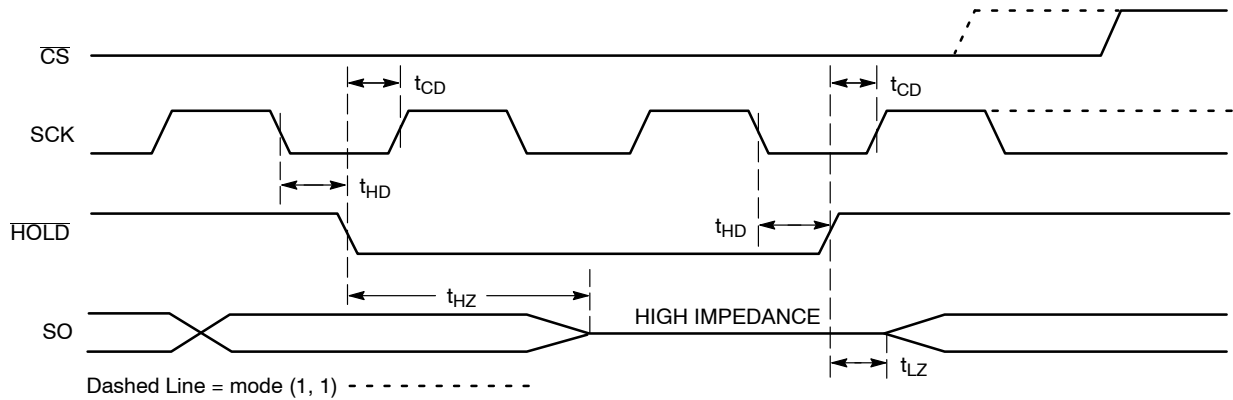

Figure 11. HOLD Timing
The $\overline{\text{HOLD}}$ input can be used to pause communication between host and CAT25256. To pause, $\overline{\text{HOLD}}$ must be taken low while SCK is low (Figure 11). During the hold condition the device must remain selected ($\overline{\text{CS}}$ low). During the pause, the data output pin (SO) is tri-stated (high impedance) and SI transitions are ignored. To resume communication, $\overline{\text{HOLD}}$ must be taken high while SCK is low.